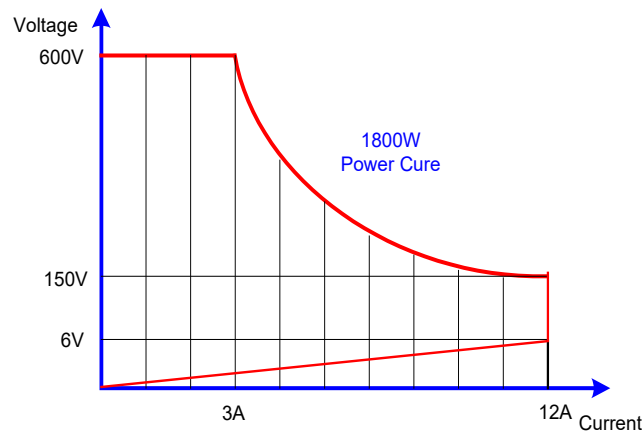

Fig 1-1 33431G 600V/12A/1800W power contour
The 33431G Series Electronic Load is designed to test, evaluation and burn-in of DC power supplies and batteries. The 33431G Series electronic load can be operated for manual and GPIB operation. The power contour of 33431G 1800 Watts Electronic Load is shown in Fig 1-1, it has an input from 0-12A, and 0-600V current and voltage operating range respectively. The power contour of 33431G Series. The prodigit 33431G Series high power electronic Load can be controlled locally at the front panel or remotely via computer over the GPIB/RS-232C/USB/LAN. Current (CC) mode, Constant Resistance (CR) mode, and Constant Voltage (CV) mode. and Constant Power (CP) mode. The wide range dynamic load with independent rise and fall current slew rate and analog programming input with arbitrary wave-form input is available in Constant Current mode.